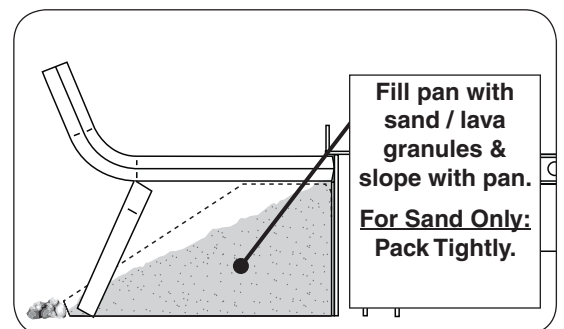

Fig. 15-4 Sand/lava granules detail
2. **Slope the sand/lava granules at the same angle as the burner pan.** This is important to ensure quiet lighting and even flame distribution. See Fig. 15-4.